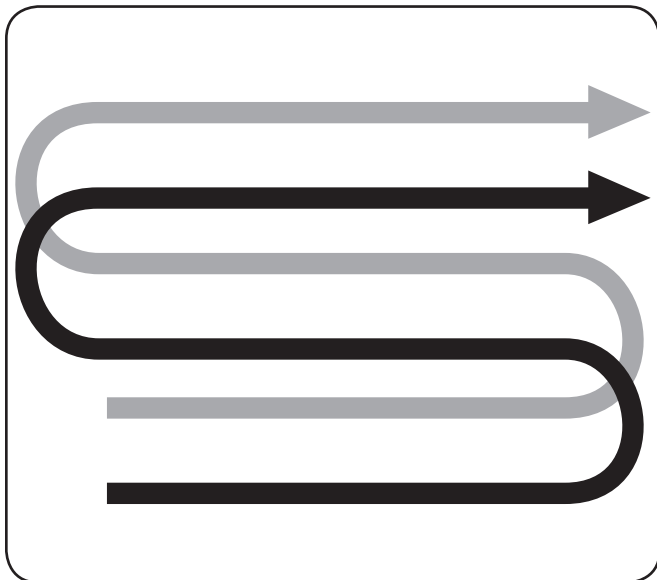

Figure 5-5
- When preparing a seedbed, go over the same path twice in the first row, then overlap one-half the tiller width on the rest of the passes. See Figure 5-5.